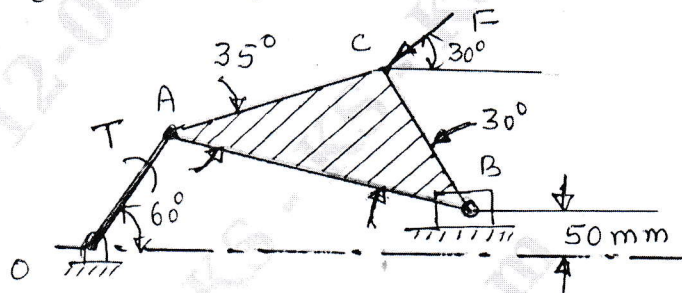

Fig.Q1(b)
- b. For the mechanism shown in Fig.Q1(b), find the required input torque for the static equilibrium. The length $OA = 250\text{mm}$, $AB = 650\text{mm}$, $F = 500\text{N}$.